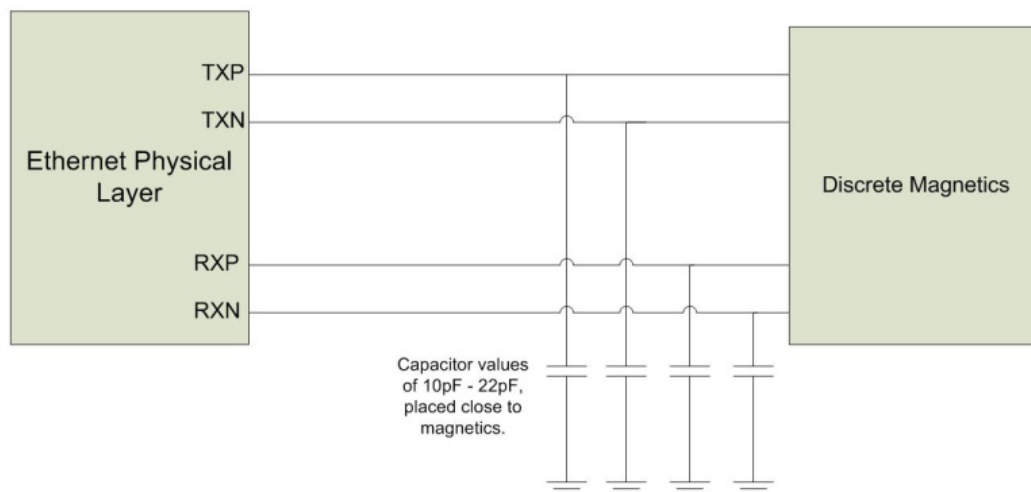

Figure 6-2: Common Mode Capacitors
- Common mode capacitors may be added to the TX+/- and RX+/- signals of the Ethernet PHY device for high frequency attenuation, as shown below in Figure 6-2. One end of each capacitor should be connected to the system ground plane, and placed within 10mm (approx. 400mils) of the magnetics. Typical capacitance values should be between 10pF and 22pF. Values higher than 22pF may negatively impact the TX and RX signaling.